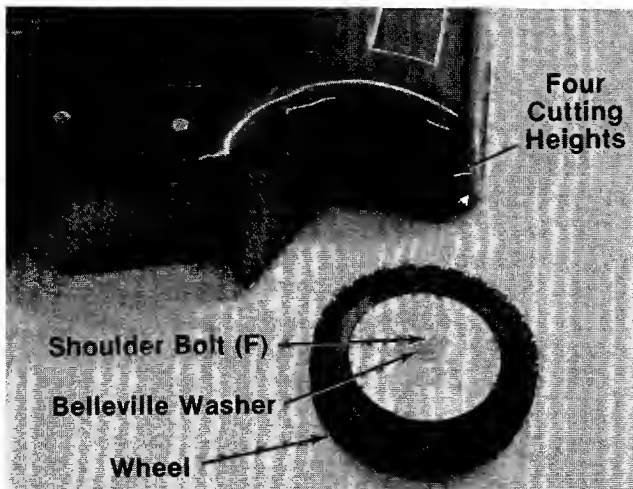

FIGURE 4.
4. Your mower has four height settings. Use the same hole for all four wheels when assembling. See figure 4.
5. Place shoulder bolt (F) through wheel. See figure 4.
6. Place crown side of belleville washer towards the wheel (away from deck). See figure 4.
7. Secure wheel to deck, using hex nut (H) and lock washer (G).
Adjustment may be made by removing and moving wheel studs to desired position. Cutting heights will be raised as wheel studs are moved to a lower hole and lowered as wheel studs are moved to a higher hole in the deck. All wheel studs must be mounted in a relative position to the deck. See figure 4.